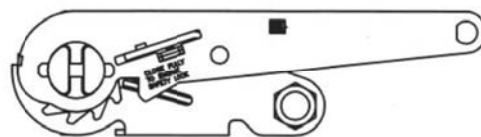

Figure 4.
4. **Close ratchet handle FULLY to engage safety lock.** (fig. 4)